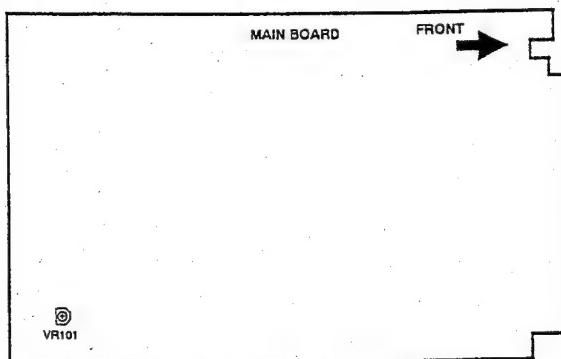

Figure 4-1 Location of on Main board
1. Input a cross hatch pattern in primary mode and adjust VR101 (see figure 4-1 for approximate location) to get the high voltage is in the range  $25.5\text{kV}\pm 0.2$ .